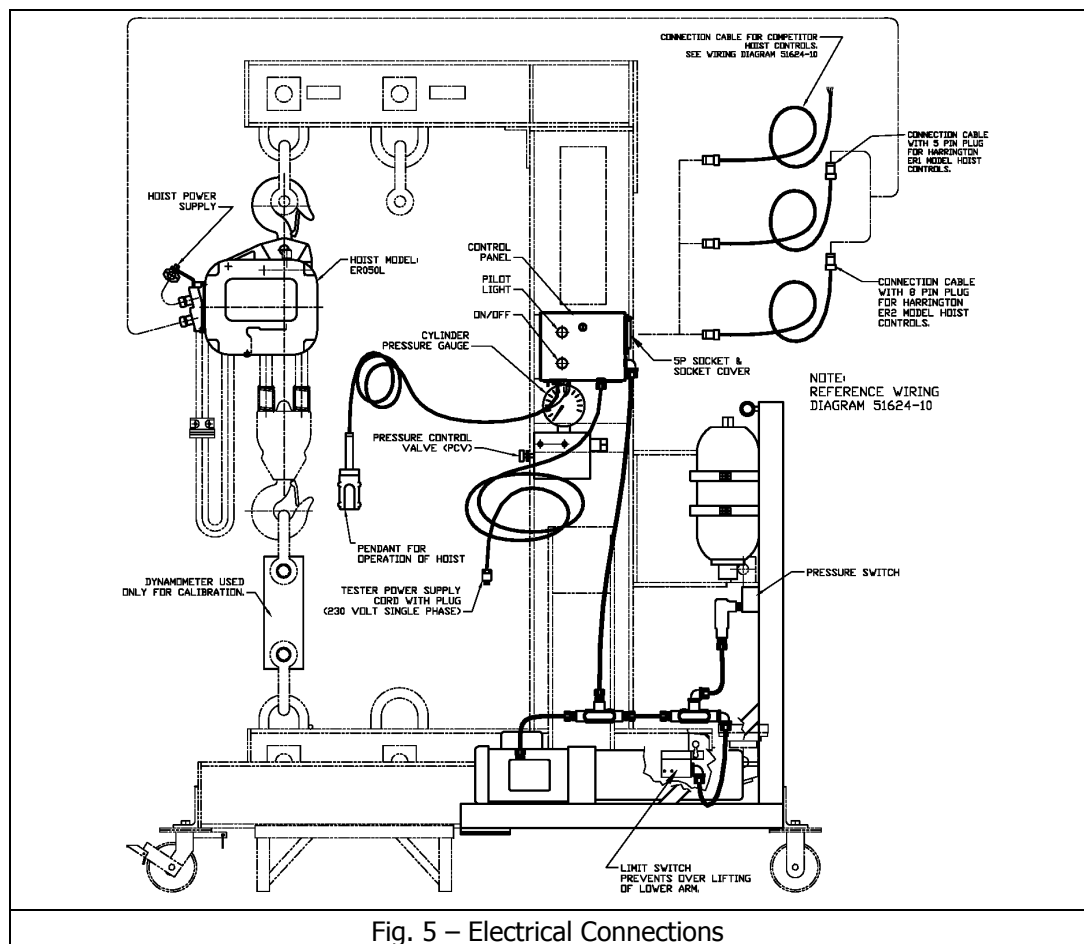

Fig. 5 – Electrical Connections
2.1.2.4. Refer to Table 1 and Fig. 5. Make connections in accordingly.